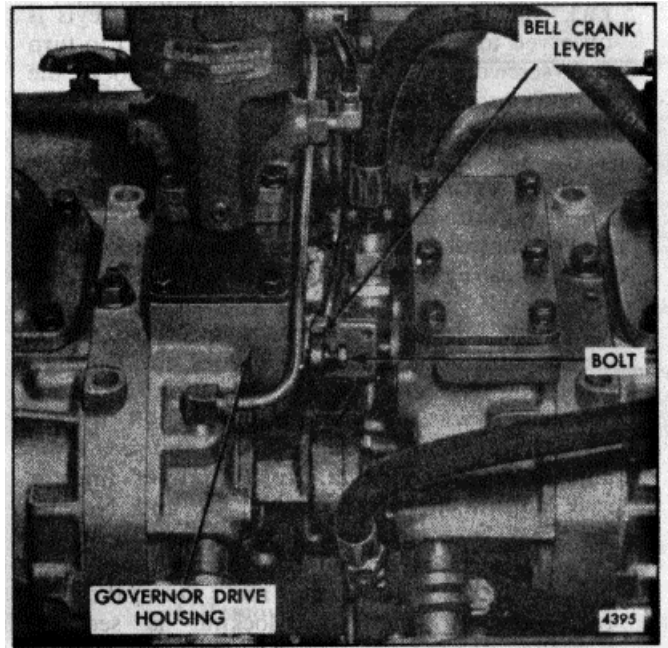

Fig. 14. - Bolt in Position through Bell Crank Lever
5. Place the bolt (removed from the lower end of the vertical link) through the bell crank and into the recessed hole in the governor drive housing (Fig. 14).